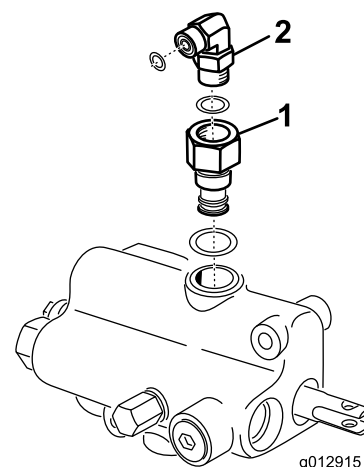

Figure 21
31. Thread the power beyond sleeve fitting into the opening in the top of the valve (Figure 21)
32. Thread a 90 degree fitting into the sleeve fitting on the valve and position as shown in Figure 21.